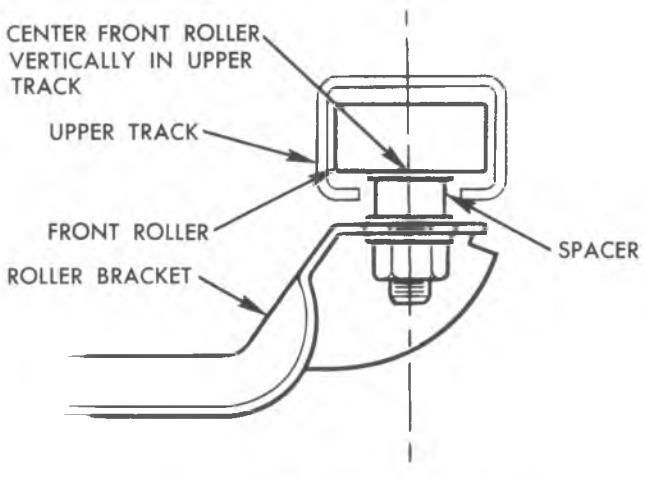

Fig. 27G—Centering Upper Front Roller
8. Position upper front roller in center of track and tighten roller bracket to door. Torque bolts to specifications. See figure 27G.
6. Adjust front upper roller so it travels in the center of its channel. See figure 27G.